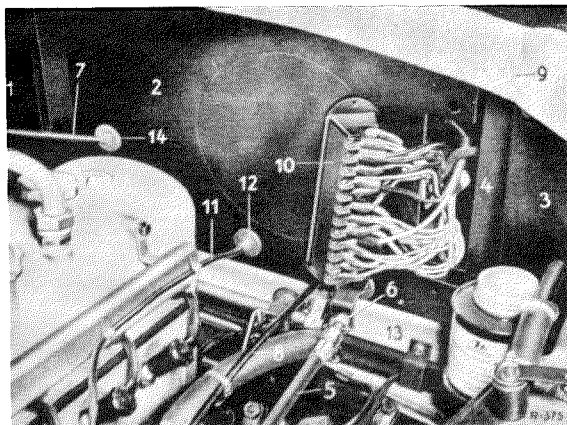

Fig. 82—19/2
2. Remove the cover of the fuse box. Unscrew the two fixing screws for the fuse box and pull out the fuse box (10) forward (Fig. 82—19.2).